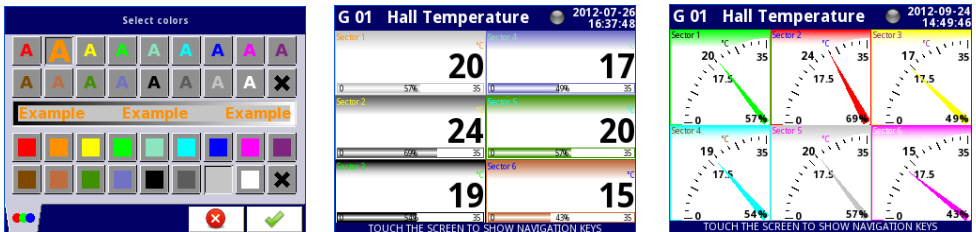

Fig. 7.118. Style color select screen and examples of views with changed styles
- **Style** – defines color which will be used to draw logical channel selected in this **Slot**. User can specify font color in channel (except value color) and drawing color of all elements connected with channel visualisation (see **Fig. 7.118**). Using black **X** buttons user can return to default settings.